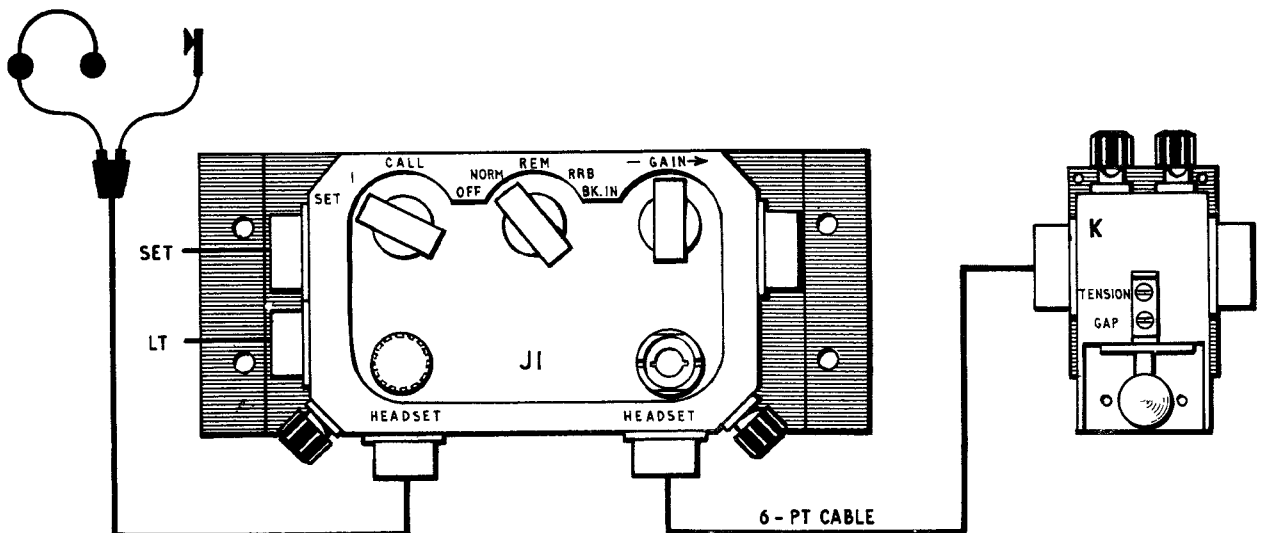

FIG. 8 LOCAL KEYING WITH J1 AND 'K' BOX
(3) Local operation
- (b) Local keying requires a cable assembly 2-condr., 3-ft. (Z1/5995-99-949-3514). This cable has a 6-pt. plug and socket. Fit it between a J1 headset socket and the 'K' box input plug as shown in fig. 8. Do not use a normal 6-pt. cable here.